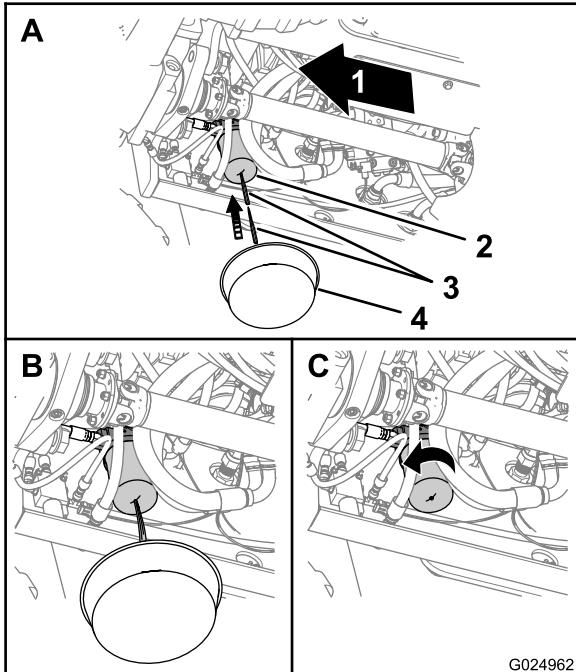

Figure 102
1. Place a drain pan under the transmission-oil filter (Figure 102).
2. Puncture the bottom of the transmission filter, and allow the residual hydraulic fluid to drain into the drain pan (Figure 102).
3. Remove the transmission filter with a filter wrench and discard the filter (Figure 102).
6. Install the new filter by hand and tighten the filter 1/2 to 3/4 turn after it makes contact with the filter head (Figure 102).